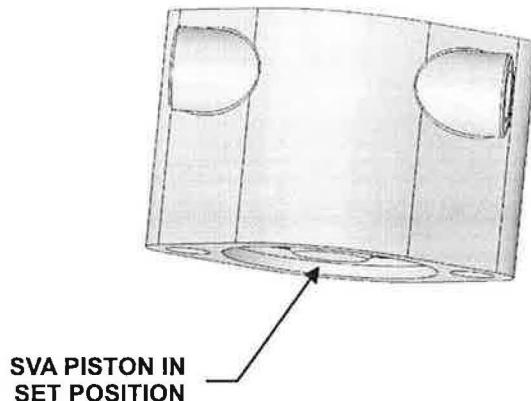

Figure 5-12. SVA in 'Set' Position
4. The bottom surface of the piston must be in the body of the SVA. If it is in the released position, push the piston into the body of the SVA (see Figure 5-12).